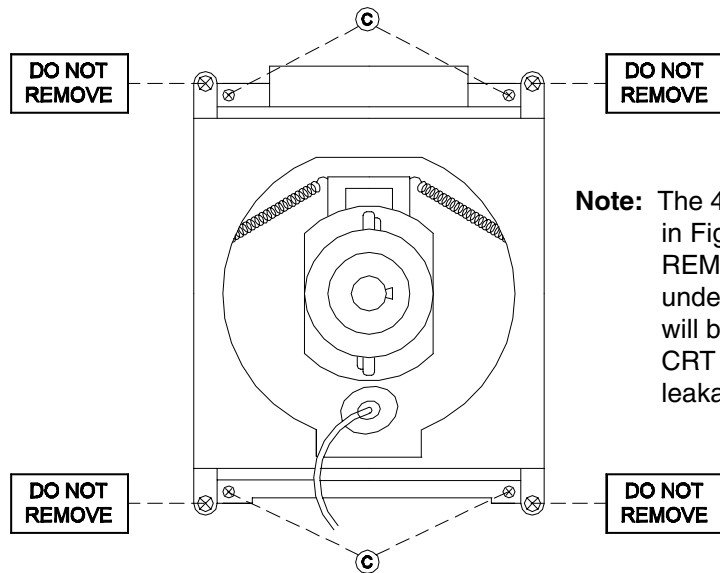

Figure 5-2
7. Remove 4 screws "c" retaining the CRT. [Figure 5-2]